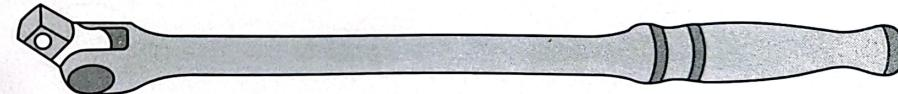

Fig. 1.32. (j) Breaker bar or Knuckle bar or Power bar.
**11. Ratchet wrench or Ratchet handle :** It contains a reversible ratcheting one-way mechanism that allows the socket to be turned back and forth without removing it from the nut or bolt simply by cycling the handle backward and forward. These wrenches can be used with different sized sockets. [See Fig. 1.32 (k)]